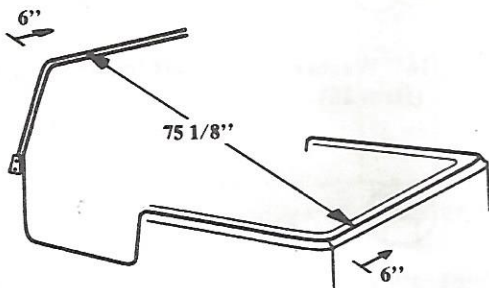
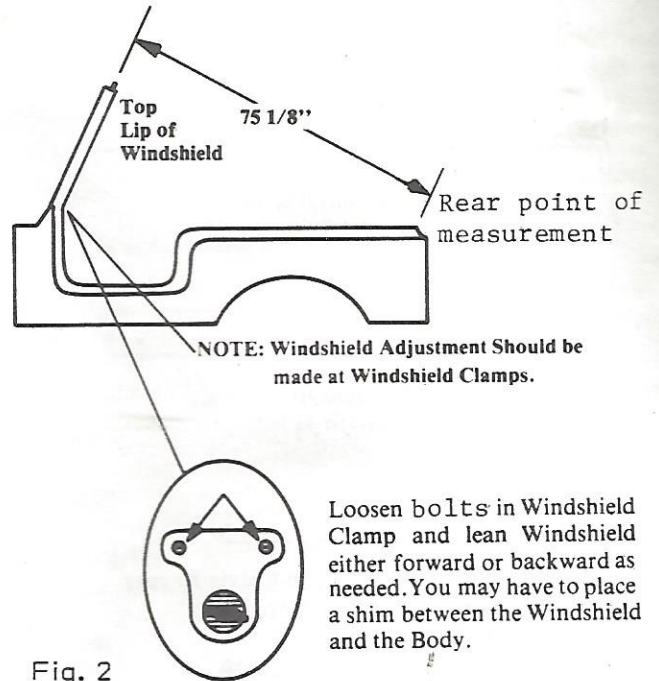

Fig. 1
Fig. 2
1. Measure from the top lip of the windshield to the rear of the body, not the tailgate. See Figure 1. Hook end of tape measure over the lip on the top of the windshield and take the measurement to the rear point of measurement on body. See Figure 2. Move about 6" over from the outside of the Jeep® before measuring, as shown in Figure 1. Be sure the measurement is true on both sides of the Jeep®.
2. Windshield adjustment should be made by loosening the two bolts in the windshield clamp. The distance should be adjusted to 75-1/8". See Figure 2.